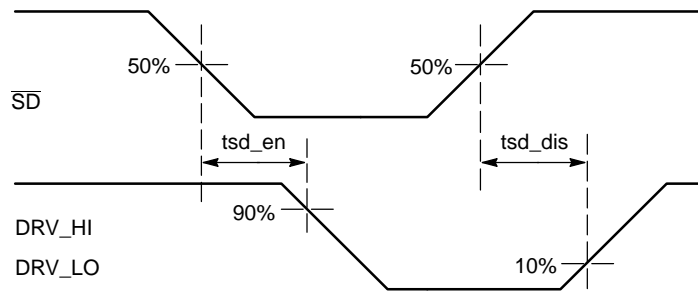

**Figure 5. Timing Definitions**
5. Timing diagram definition see: Figure 4, Figure 5 and Figure 6.